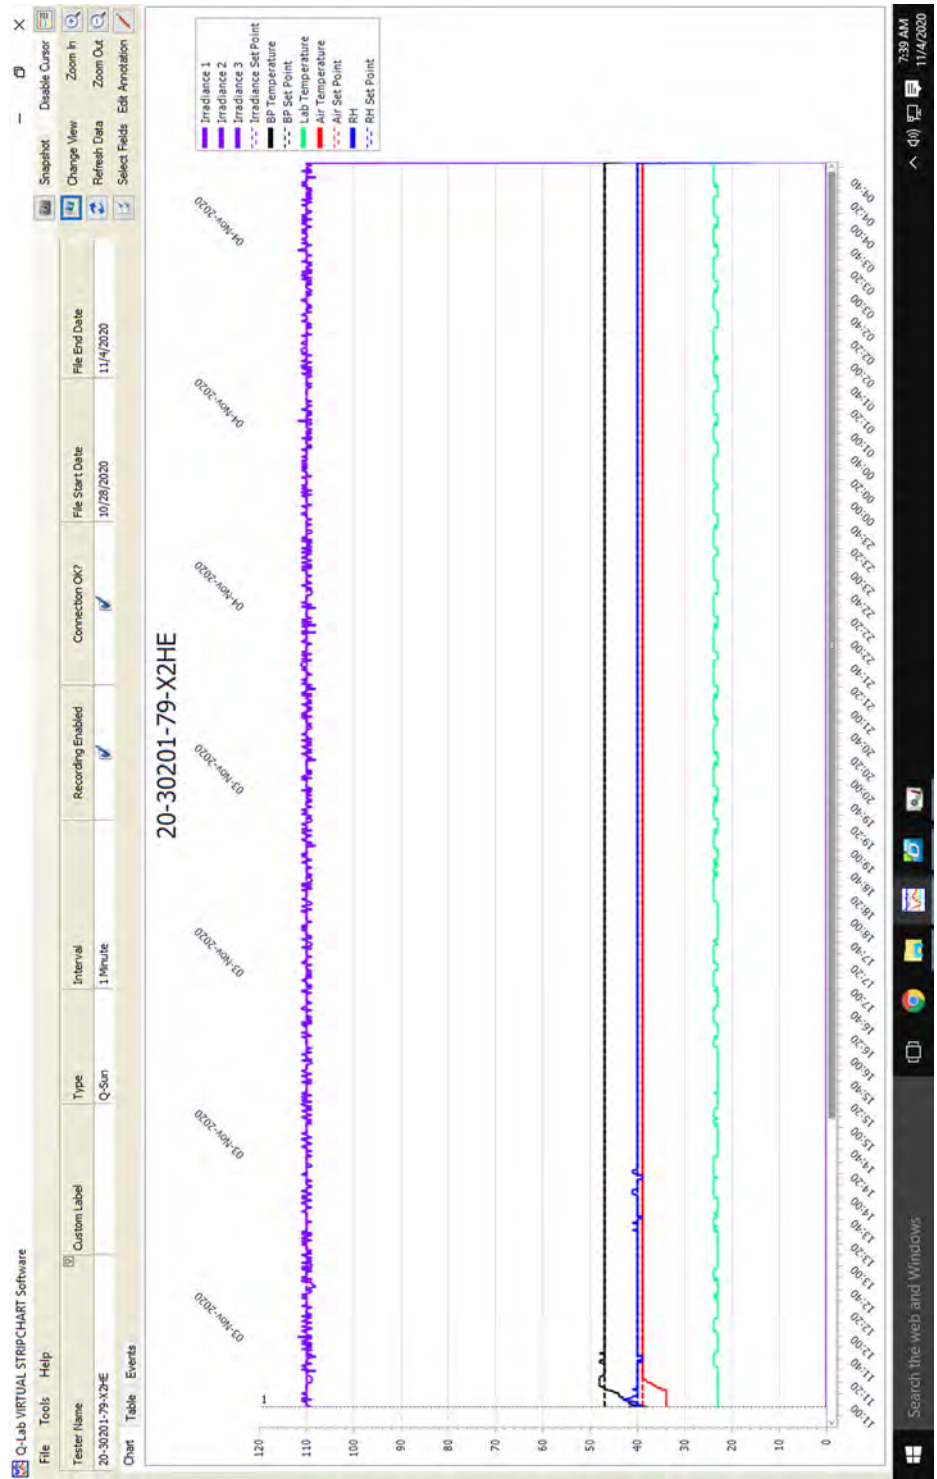

Figure 14.3h: VIRTUAL STRIPCHART chart view.
- The exported files (Figure 14.3g) can be uploaded to the Q-Portal Asset Center where customers can view basic operational data (Figure 14.3h and Figure 14.3i) and Q-Lab personnel can view extended operational data.